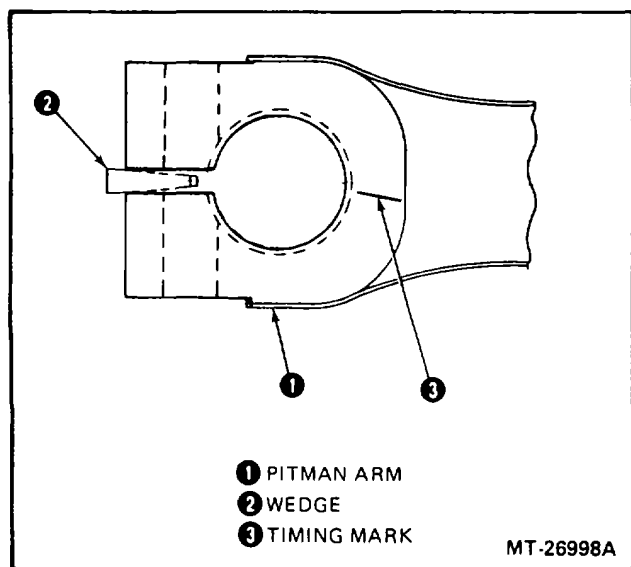

Figure 9 - Pitman Arm Removal
4. Drive wedge into slot in Pitman arm (Figure 9). Remove Pitman arm.